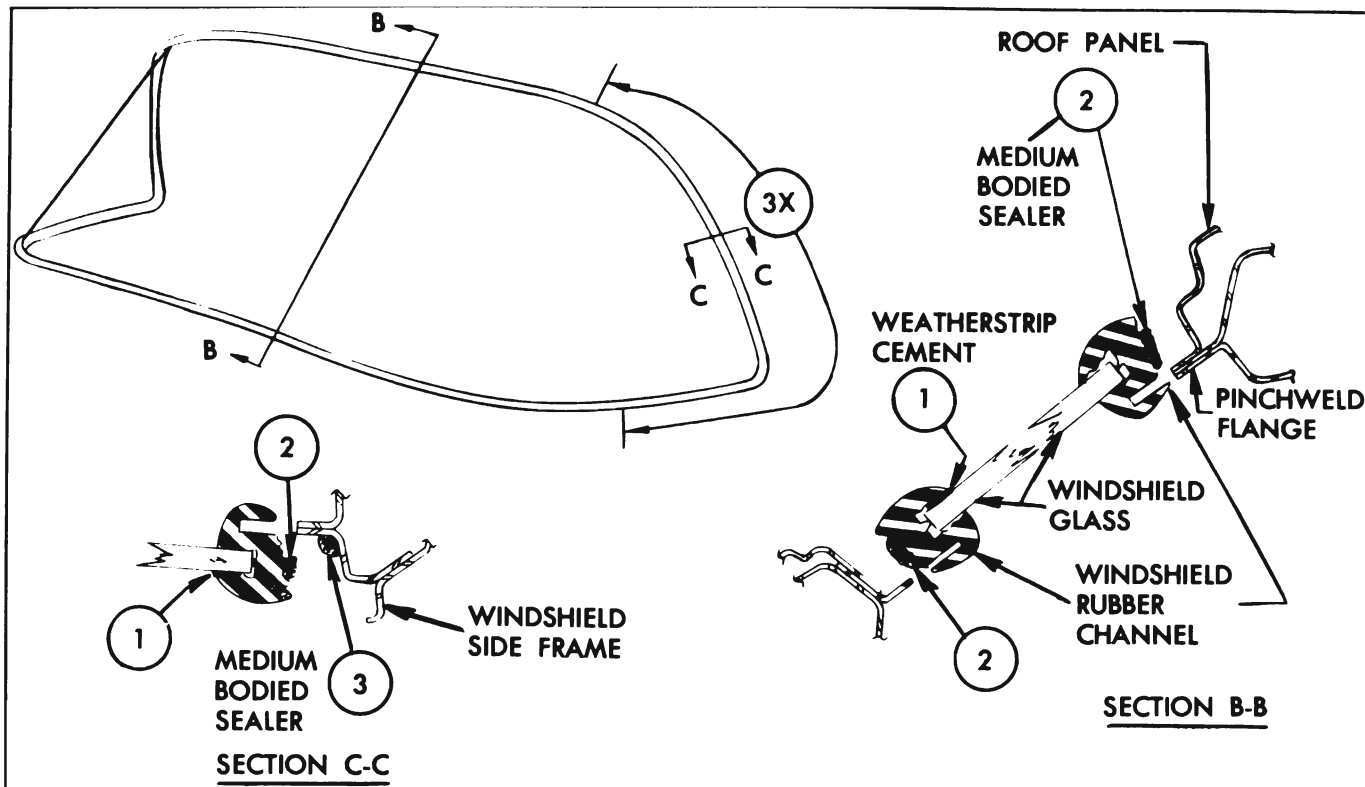

Figure 13-9—Windshield Glass Sealing
2. Install rubber channel on glass. See Figure 13-9. On convertible styles, install and center upper reveal molding in rubber channel.
4. Apply a ribbon of medium-bodied sealer completely around base of rubber channel as indicated at 2 in Figure 13-9. In addition, apply a ribbon of sealer along pinchweld flange as indicated at "3", in Figure 13-9. This seal is to be applied at each side of windshield opening as indicated by distance 3X.